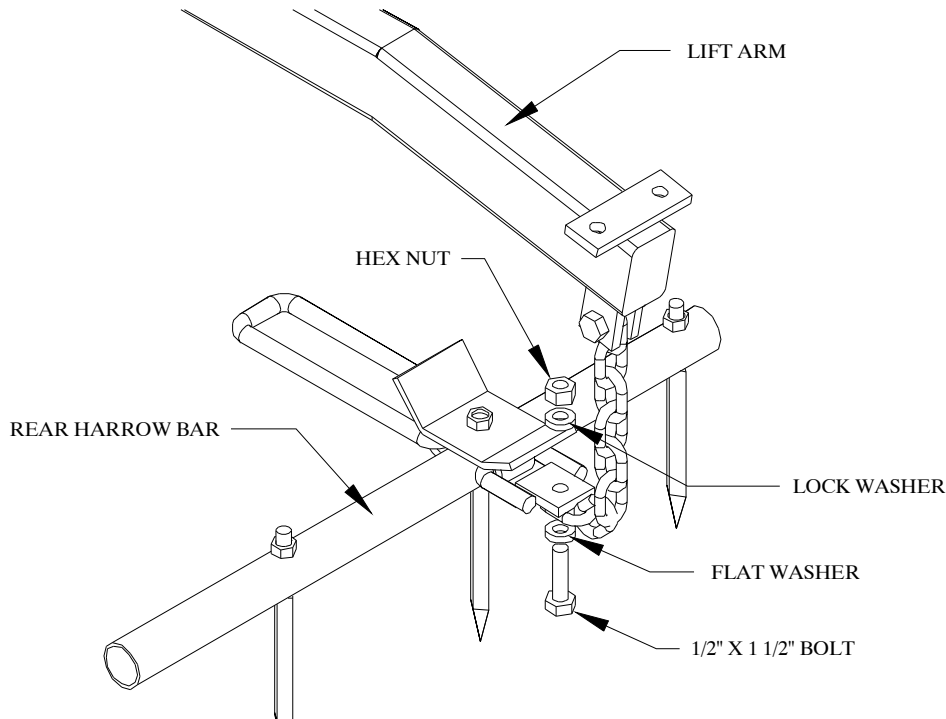

Figure 17
2. Bolt the lift chains to the bottom of the rear lift tabs of the harrow sections. Refer to Figure 17. Use ½” x 1 ½” bolts, flat washers, lock washers, and hex nuts. Make sure the chains are not twisted.